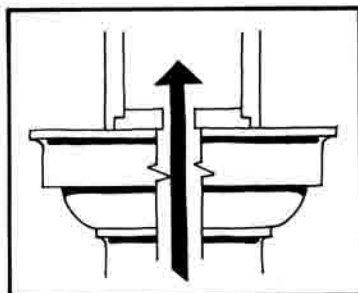
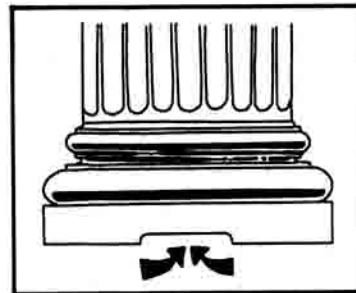
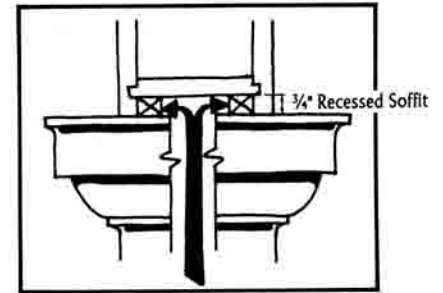

Figure 2-8
Figure 2-9
Figure 2-10
Columns must always have adequate ventilation. This can be supplied in two (2) ways: a ventilated plinth (Fig. 2-8) and soffit (Fig. 2-9), or a ventilated plinth and recessed soffit (Fig. 2-10).